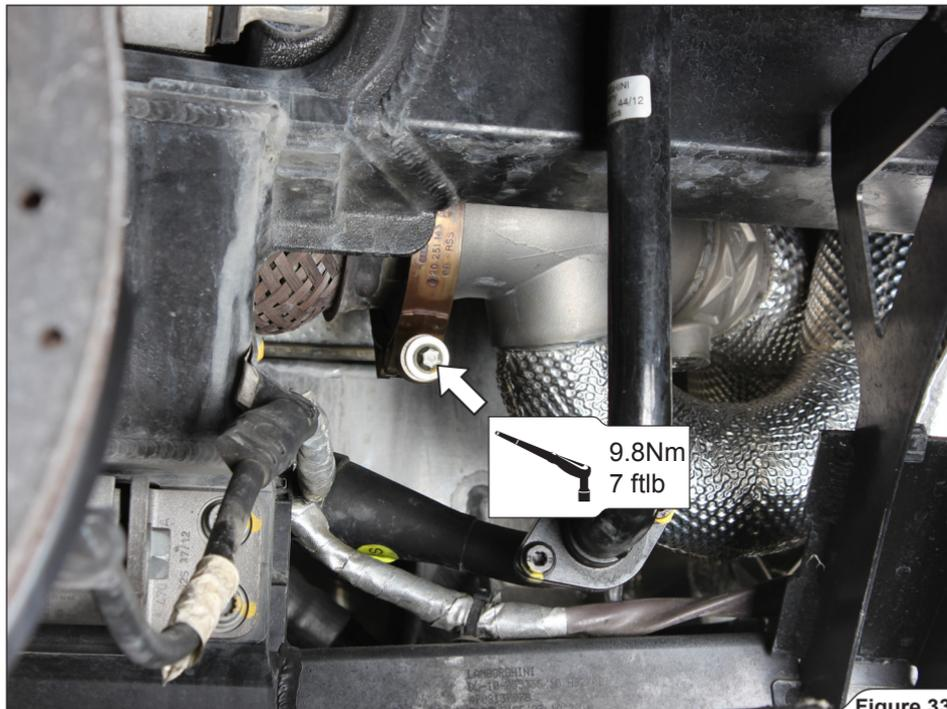

Figure 33
- Align and center the stock link pipes in respect to the muffler's inlets and alternately tighten both clamps to the specified torque (**Figure 33**).